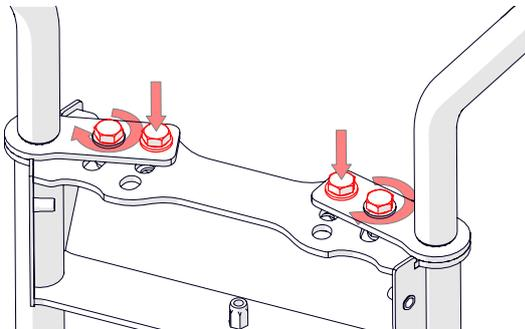

Fig.22H - Insert bolts and tighten (top console removed for clarity).
7. Secure all the bolts and tighten [13 mm spanner] (Fig.22H).